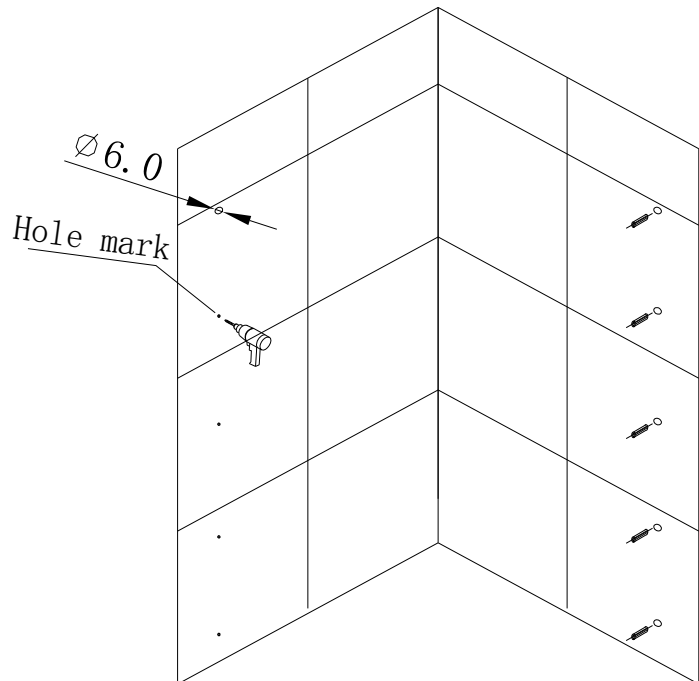

Fig. 2
- 2). Drilling the holes (10-- ϕ 6mm) according the mark, insert the plastic plug into the holes, As FIG. 2.